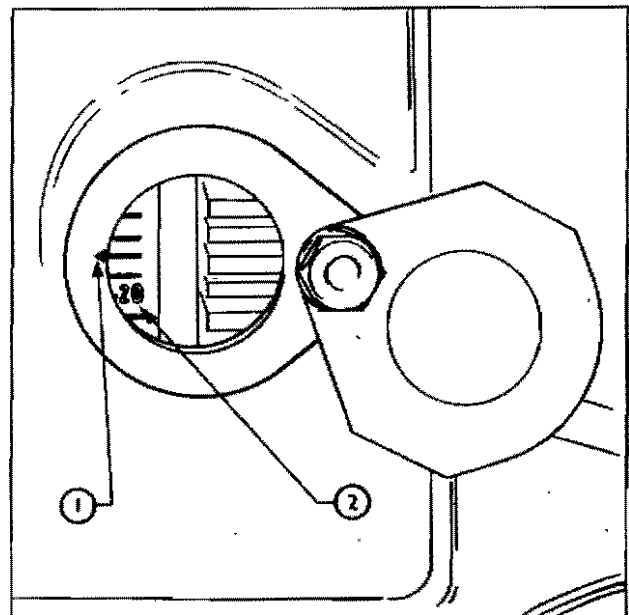

Fig. 75 1 Timing Mark
3. Set the engine timing marks to  $9^{\circ}$  B.T.D.C. Rotate the crankshaft until the timing mark (see Fig.75) is in line with the  $9^{\circ}$  mark on the flywheel timing scale with No. 1 piston approaching the top of the compression stroke. When the engine is on the correct stroke a timing mark on the rear face of the camshaft gear will be visible in the injection pump mounting aperture.